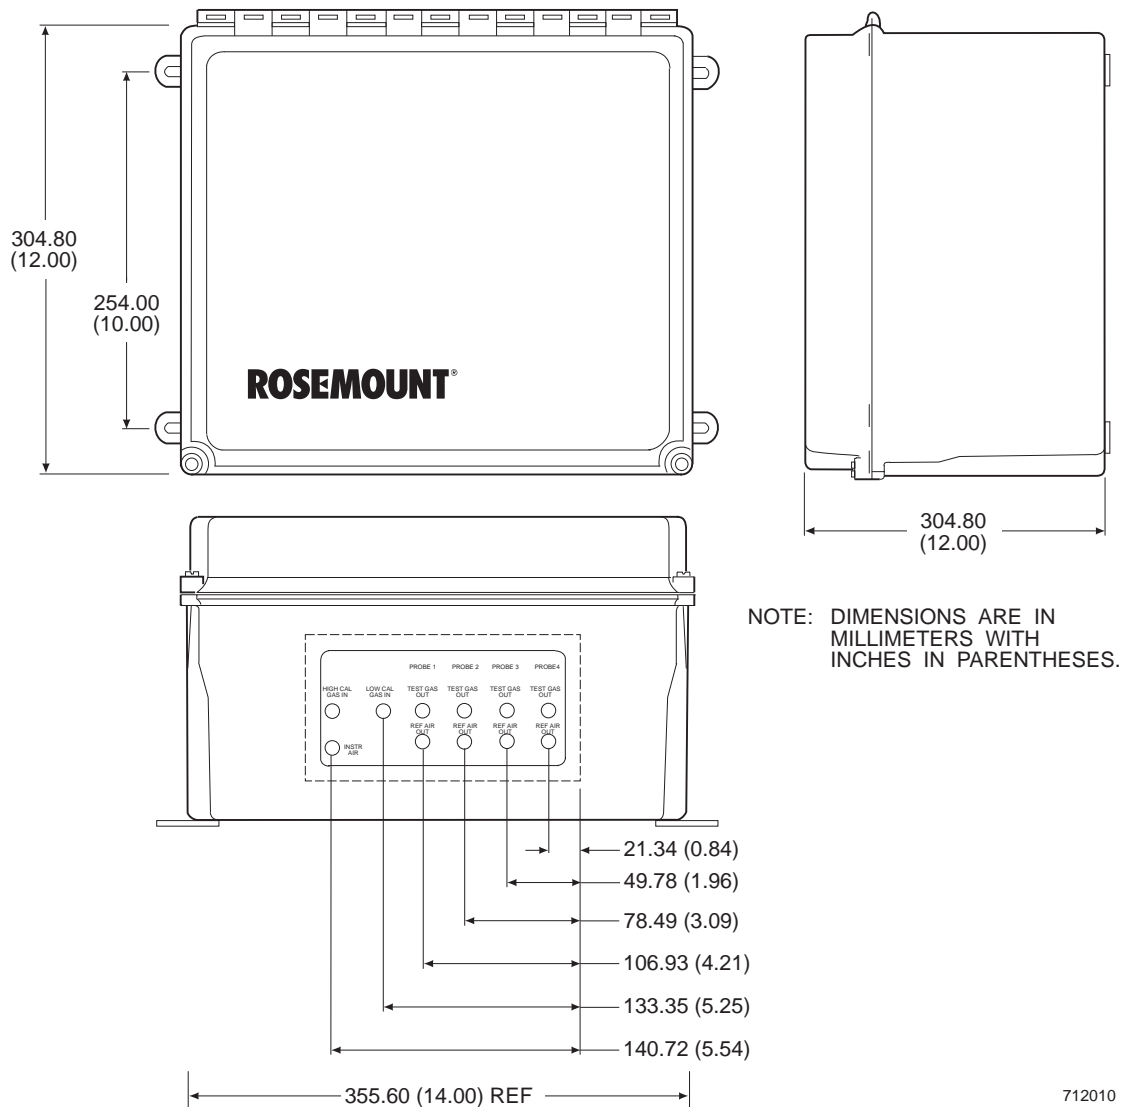

Figure 2-17. MPS Module
- Mechanical Installation.** The outline drawing of the MPS module in Figure 2-17 shows mounting centers and clearances. The box is designed to be mounted on a wall or bulkhead. The MPS module should be installed no further than 91 m (300 ft) piping distance from the probe, and no more than 303 m (1000 ft) cabling distance from the IFT. Install the MPS module in a location where the ambient temperature is between -30° and 71 °C (-20° and 160 °F).